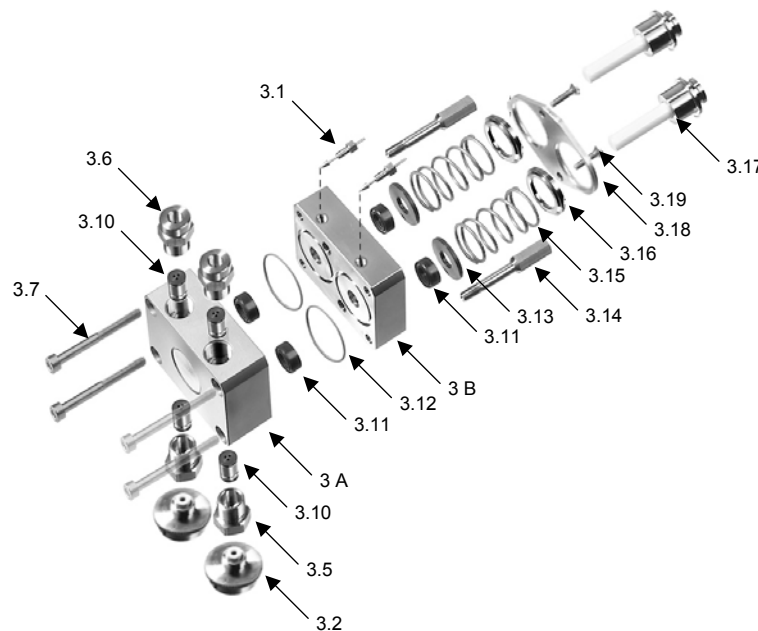

Fig. 30 Explosion diagram of pump heads, compact design
6. Using a hexagonal spanner no. 4 (4 mm), loosen just two diagonally opposed „Head set screws“, Pos. {3.7}. Remove the screws. (see Fig. 30 on page 33).
2. The „Piston rods“, Pos. {3.17} in Fig. 30 on page 33 may be removed using pliers. Take the tip of the piston using the pliers, and pull it out carefully in a straight line.
All positions of components refer to Fig. 30 „Explosion diagram of pump heads, compact design“ on page 33.